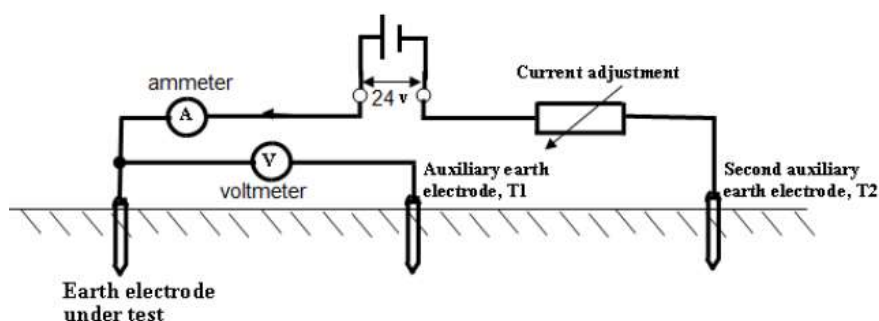

Figure Q6(c)
- 6(c) In the earth electrode test done as per circuit shown in Figure Q6(c), the ammeter shows 5000mA, the voltmeter shows 10V, calculate the earth electrode resistance. Name any two types of earth electrodes that are acceptable for use in Singapore. (4 marks)